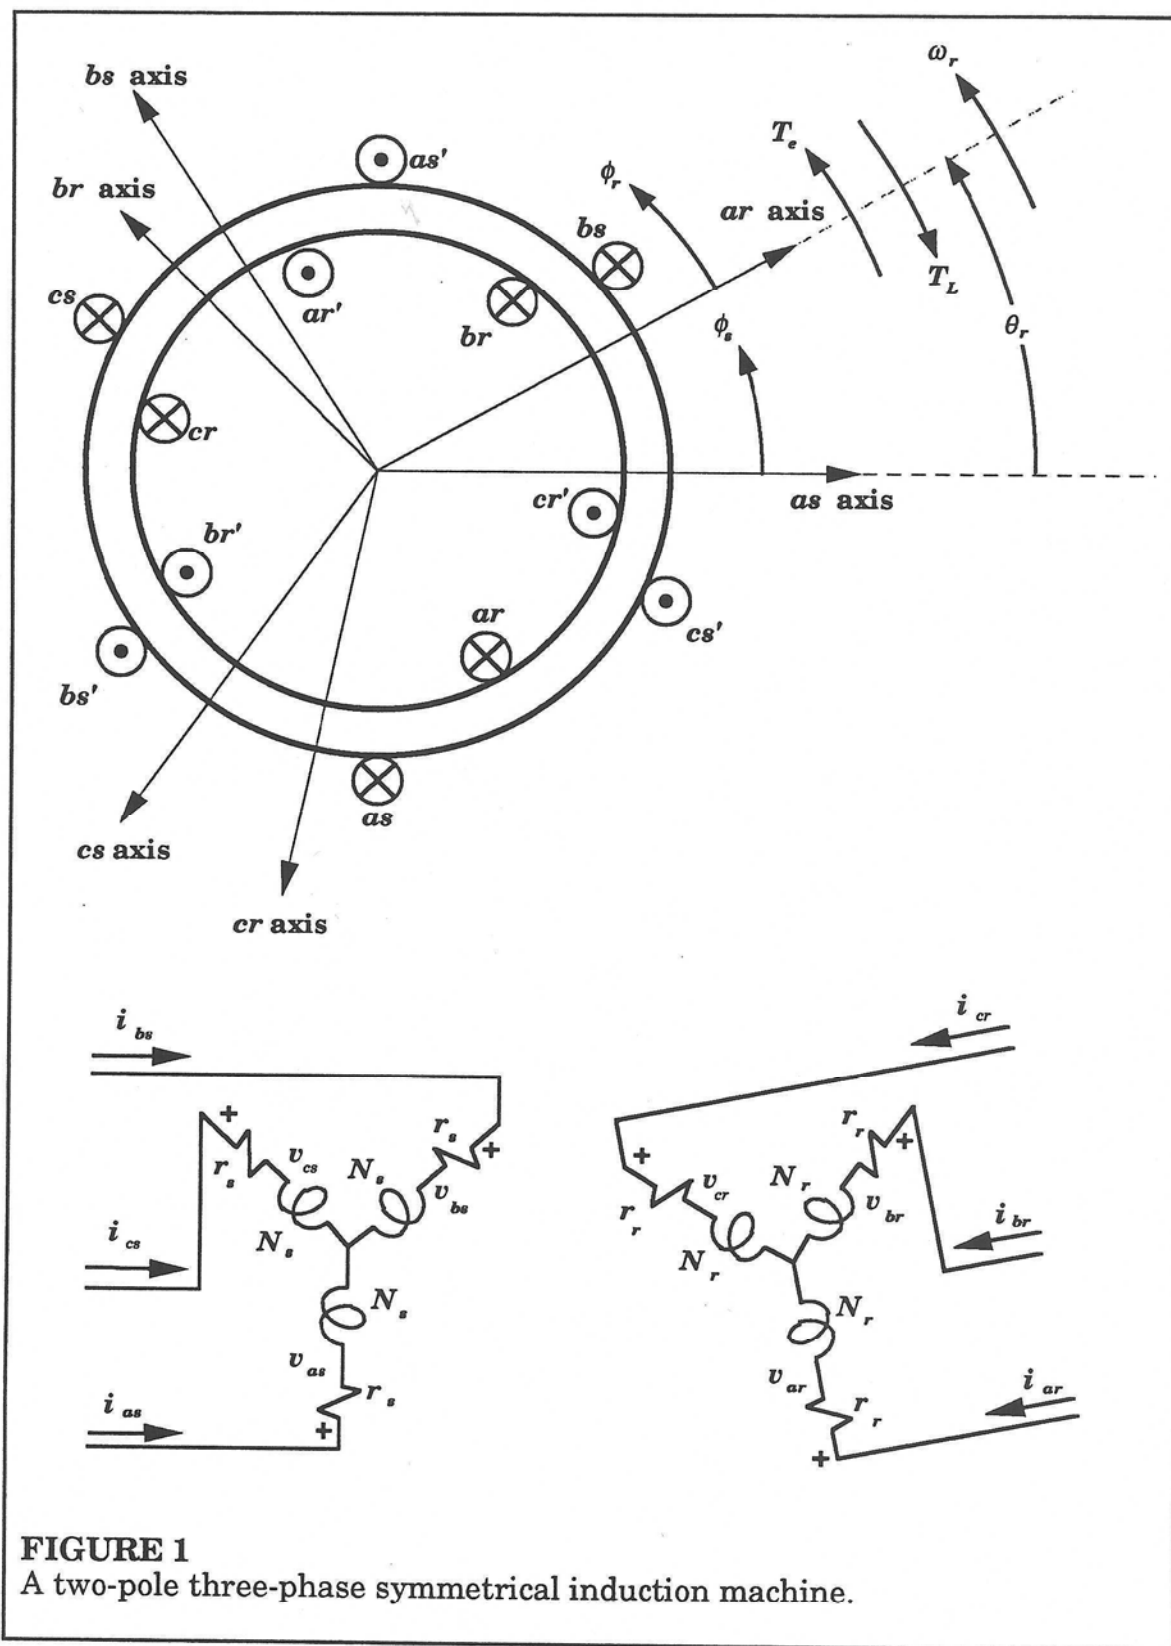

FIGURE 1
- Winding arrangement for a 2-pole, 3 phase, wye-connected symmetrical induction machine is shown in Fig. 1. Stator windings are identical, sinusoidally distributed windings, displaced by 120° , with N_s equivalent turns and resistance r_s .